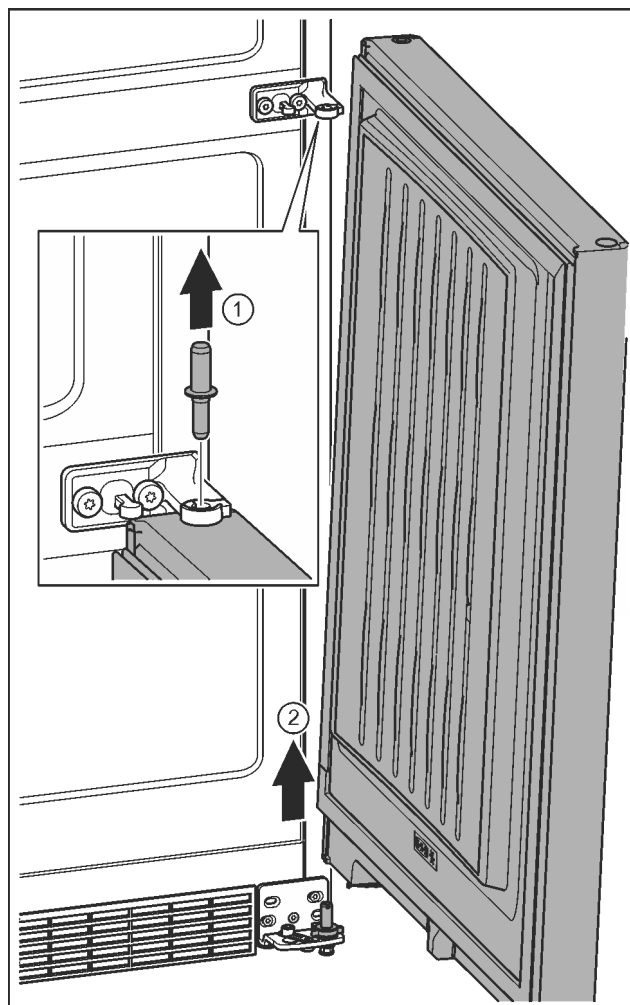

Fig. 12
- Pull out the bolts towards the top. *Fig. 12 (1)*
- Swing the door out, pull it upwards and set it aside. *Fig. 12 (2)*